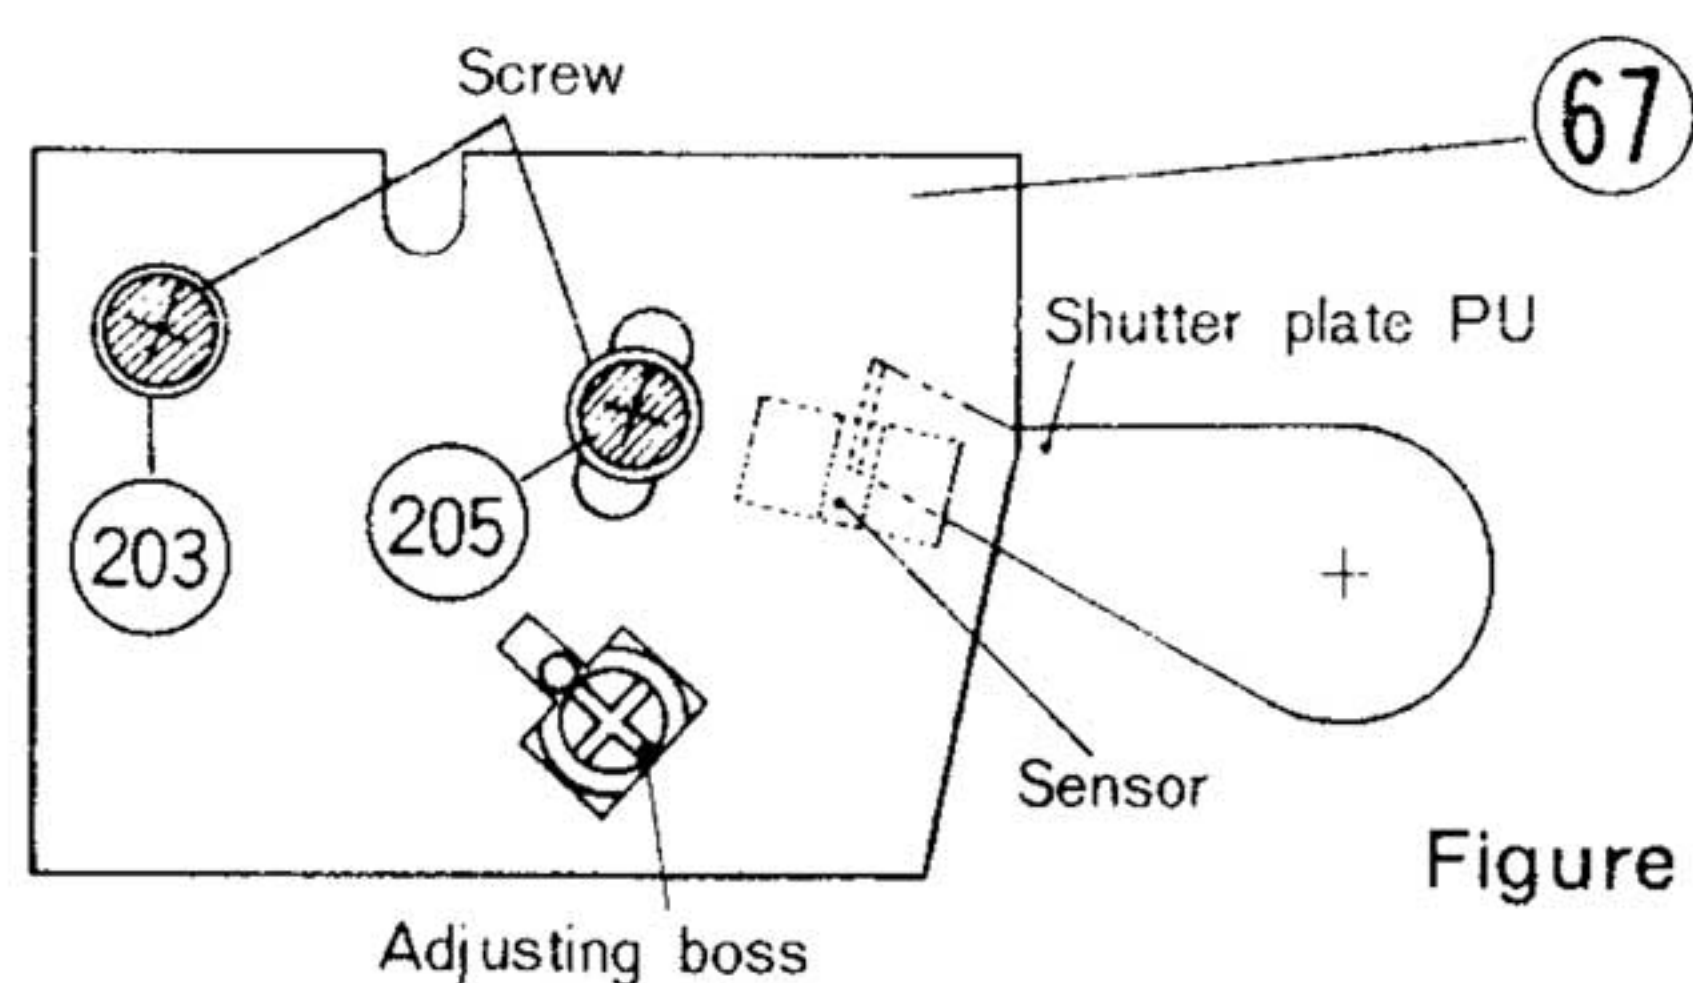

Figure 24
4. Slightly loosen the two Screws, (203) and (205), which fasten the Phono PWB Assy (67). (Fig. 24).
5. Turn the adjusting boss counterclockwise with the screwdriver (Fig. 24).
4. フォノPWB assy (67)をとめている2本のビス(203)・(205)をゆるめる。(図24)
- Slightly loosen the two Screws, (203) and (205), which fasten the Phono PWB Assy (Fig. 24).